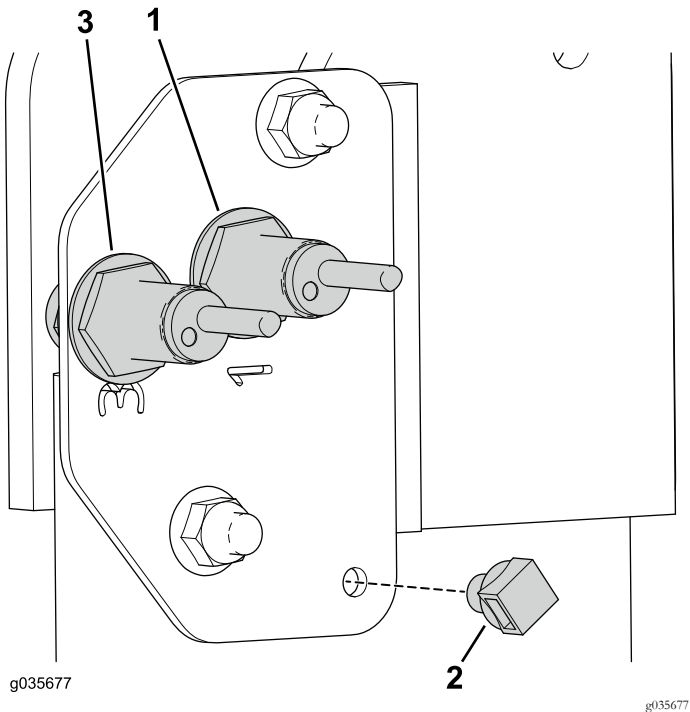
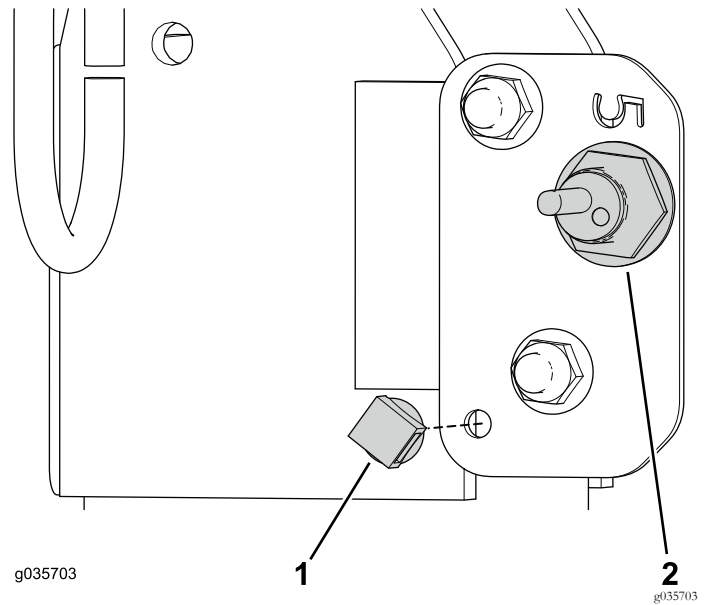

Figure 23
Figure 24
5. Connect the wire harness to the appropriate proximity sensor (Figure 23 and Figure 24).
6. Install the cable-tie clips to the left and right sensor plate (Figure 23 and Figure 24).
7. Insert the cable ties through the clip and around the wire harness connectors to secure it to the sensor plate (Figure 23) and Figure 24).